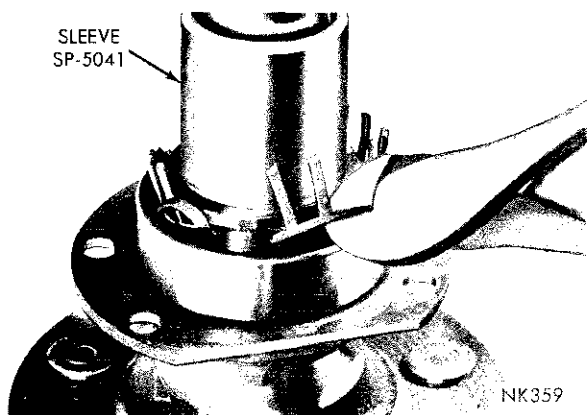

Fig. 11—Cutting out the Roller Bearing Retainer
(5) Pull the roller retainer down as far as possible and cut it with a pair of side cutters and remove from the assembly (Fig. 11).
(6) Remove the roller bearing cup from the axle shaft.